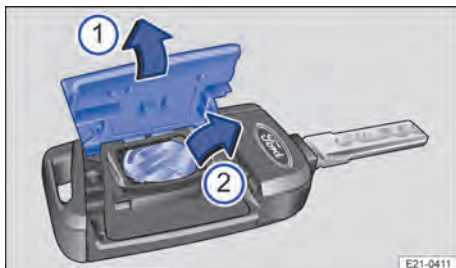

Fig. 54 Vehicle key: changing the button cell.
There are two options for changing the button cell in the vehicle key, depending on the equipment: → Fig. 54 and → Fig. 55.
2. Open the cover upwards → Fig. 54 ①.
3. Remove the button cell from the compartment ②.